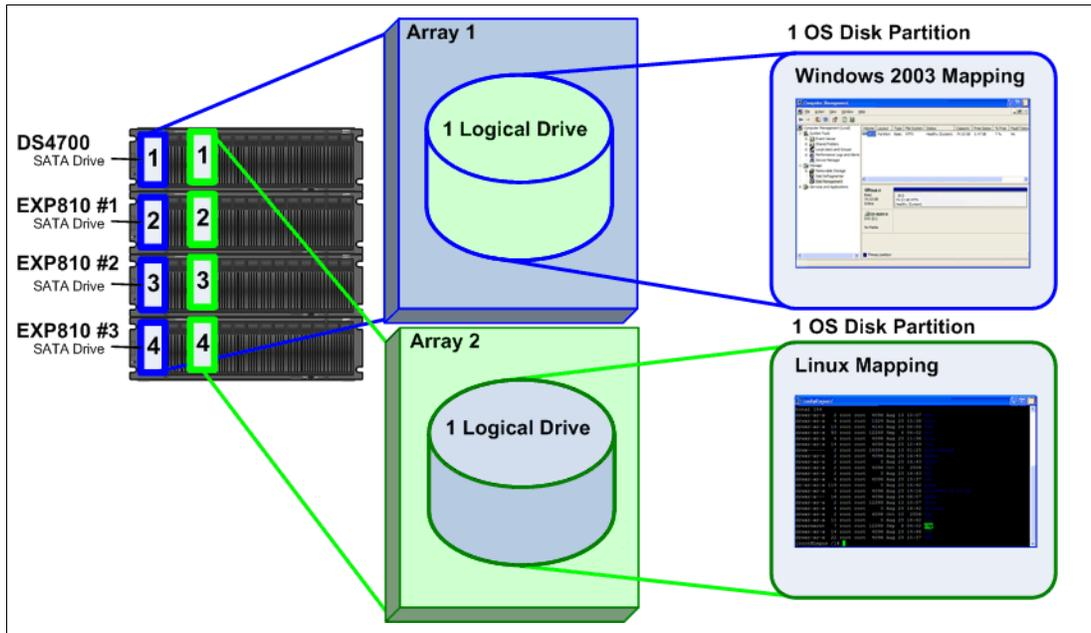

Figure 3-84 SATA disk configuration
Tip: The ideal configuration for SATA drives is one drive in each EXP per array, one logical drive per array, and one operating system (OS) disk partition per logical drive, as shown in Figure 3-84. This configuration minimizes the random head movements that increase stress on the SATA drives. As the number of drive locations to which the heads must move increases, application performance and drive reliability may be impacted. If more logical drives are configured, but not all of them used simultaneously, some of the randomness can be avoided. SATA drives are best used for long sequential reads and writes.